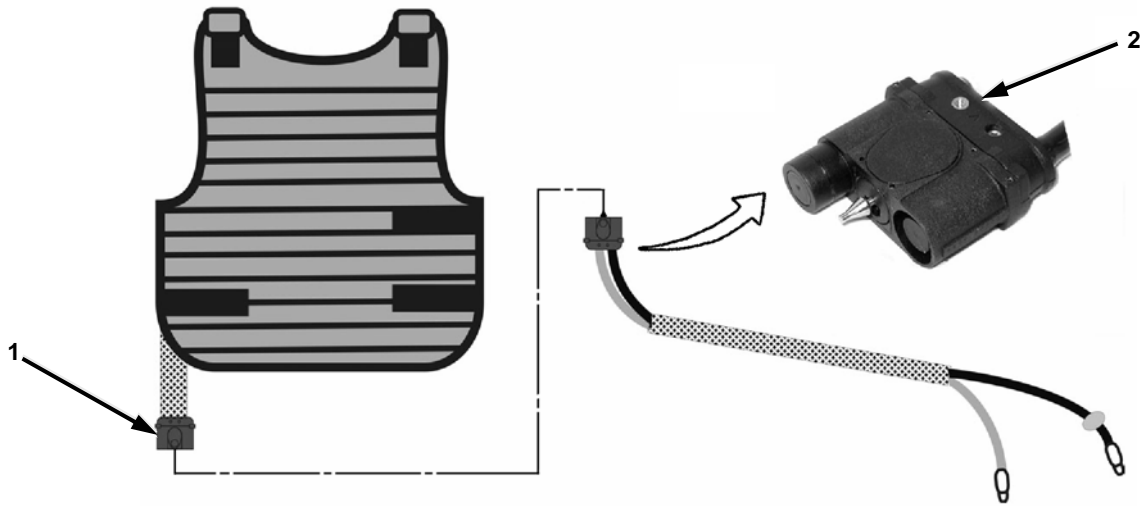

Figure 2-26. Latch Tether for Purging MCG.
Step 4 below applies to Figure 2-26.
4. Connect latch tether (2) to MCG (1).